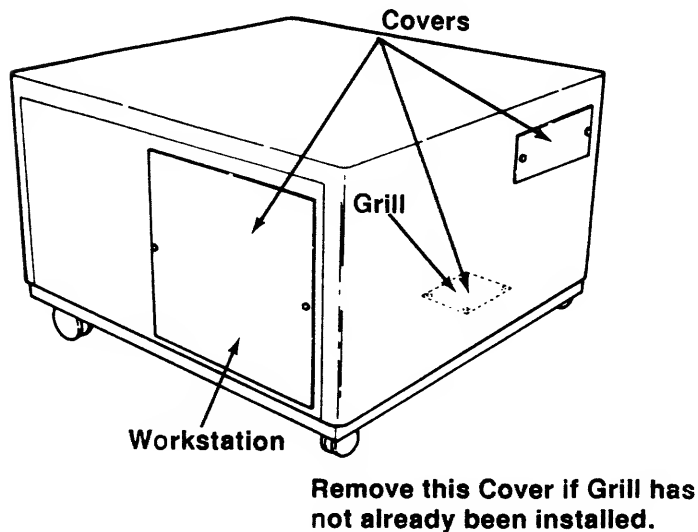

Figure 2-3. 1B
10. Loosely install an M4 x 0.7 mm Nut (Item 21) and #6 Plain Washer (Item 15) on the threaded shaft of the Adjustment Bracket (Figure 2-3.C).